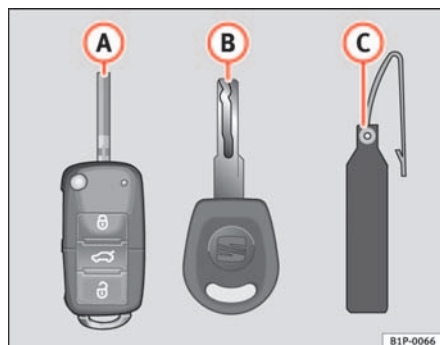

Fig. 63 Set of keys
- one remote control key ⇒ fig. 63 **A** with folding key bit,
Spare keys cannot be issued without the key number on the key tab ⇒ fig. 63 **B**. Therefore:
- Use both keys that have been delivered with the vehicle ⇒ page 99, fig. 63, the key fitted with the remote control ① and the normal key ②.